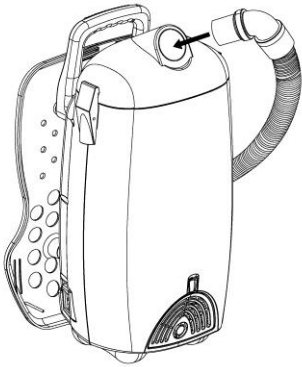

Fig. 7
- Push/press fit the hose into the lid opening. (Fig 7)